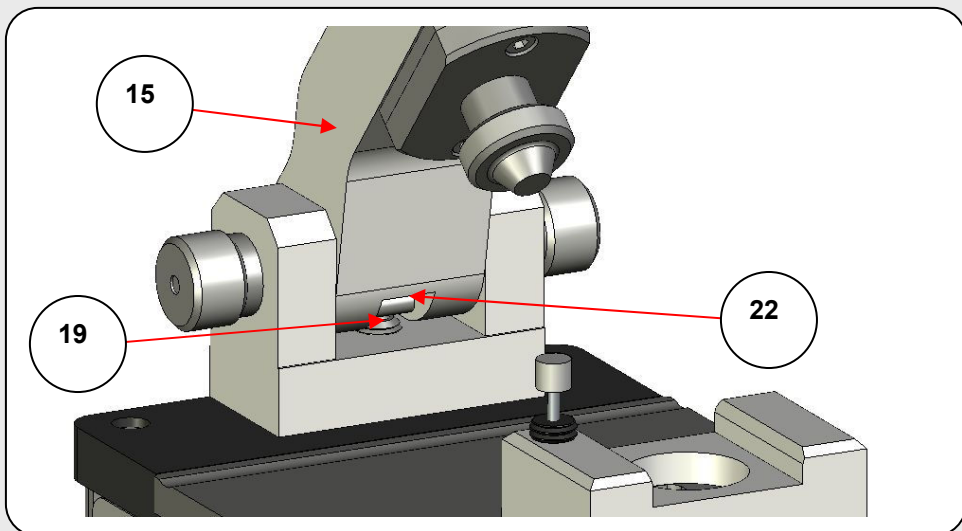

Figure 19. Silver Gate™ Accessory with Bridge (15) up showing detail of the stay up catch (19) and stay up support rod (22)
Note: If the Silver Gate™ bridge and clamp anvil assembly (15) is removed by loosening and removing the hinge pin, take care that the stay up catch support rod (22) that is loose fitted in the bridge and which engages against the stay up catch device (19) does not fall out of the bridge and becomes lost (See Figure 19.)